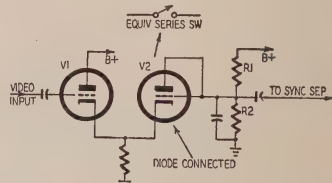

Fig. 4—A conduction type circuit.
2. *The conduction type.* The path of the sync pulses is cut off (Fig. 4) as by a switch in the presence of noise. The switch is open when noise appears. This circuit, used several years ago by Philco, depends on a very critical state of near cutoff during normal sync. The inertia or flywheel action of the local oscillators (vertical and horizontal) are relied upon to keep the picture in sync when the switch or gate tube is nonconducting, i.e., when the switch of Fig. 4 is open.
These circuits may depend on rather critical adjustment of the bias or voltage determining the clipping action. Usually this takes the form of a voltage divider (R1, R2) from a B-plus supply bus, as in Fig. 4. Here any slight change of resistance values in the chain of resistors makes the circuit ineffective—it will either remain cut off all the time or not be driven to cutoff by noise. If a voltmeter is connected from the chassis to plate (Figs. 4, 5), or chassis